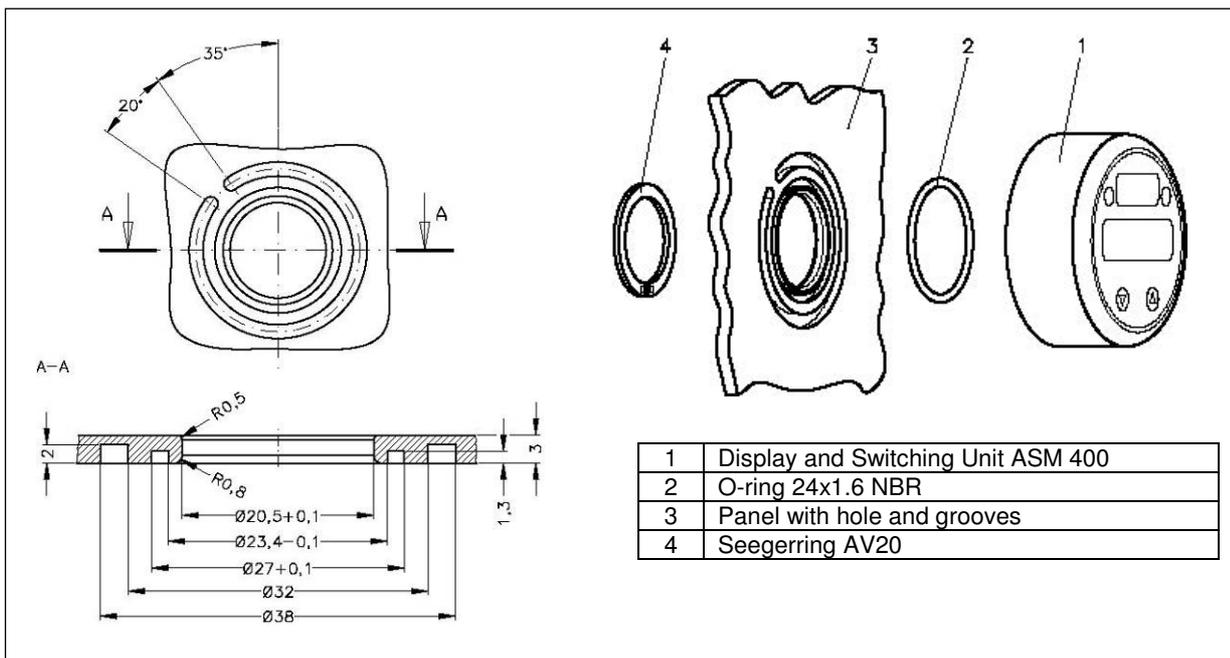

Fig. 2 ASM 400
- For the ASM 400, a hole and two grooves have to be machined into the designated housing (see fig. 2).